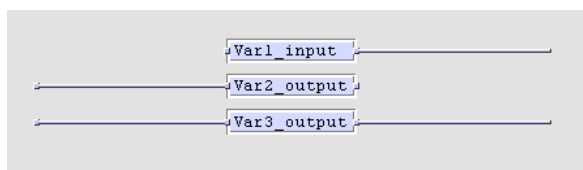

Figure 103: Direction of global variables
- The direction of the variable is determined based on the graphical representation, shown in Figure 103.